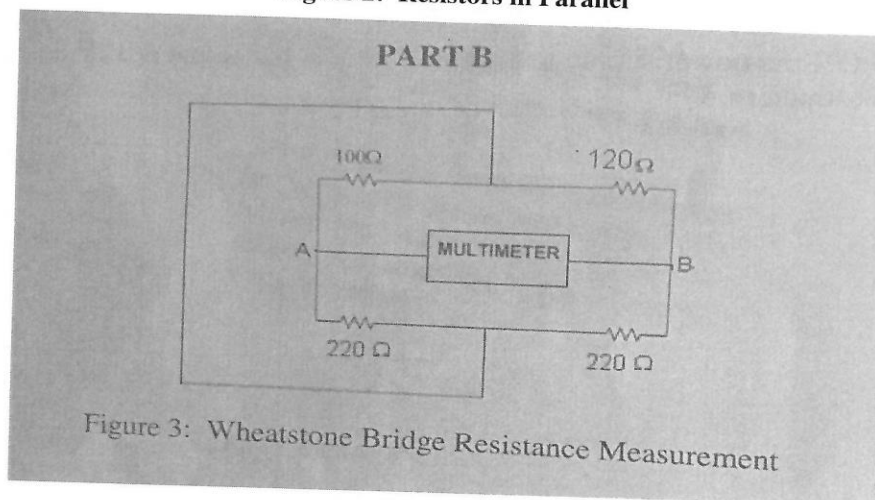

Figure 3: Wheatstone Bridge Resistance Measurement
11. Turn off the power supply and connect the circuit as figure 3 below
7. For Figure 3, did the theoretical and measured value of R_{ab} match. If not comment.